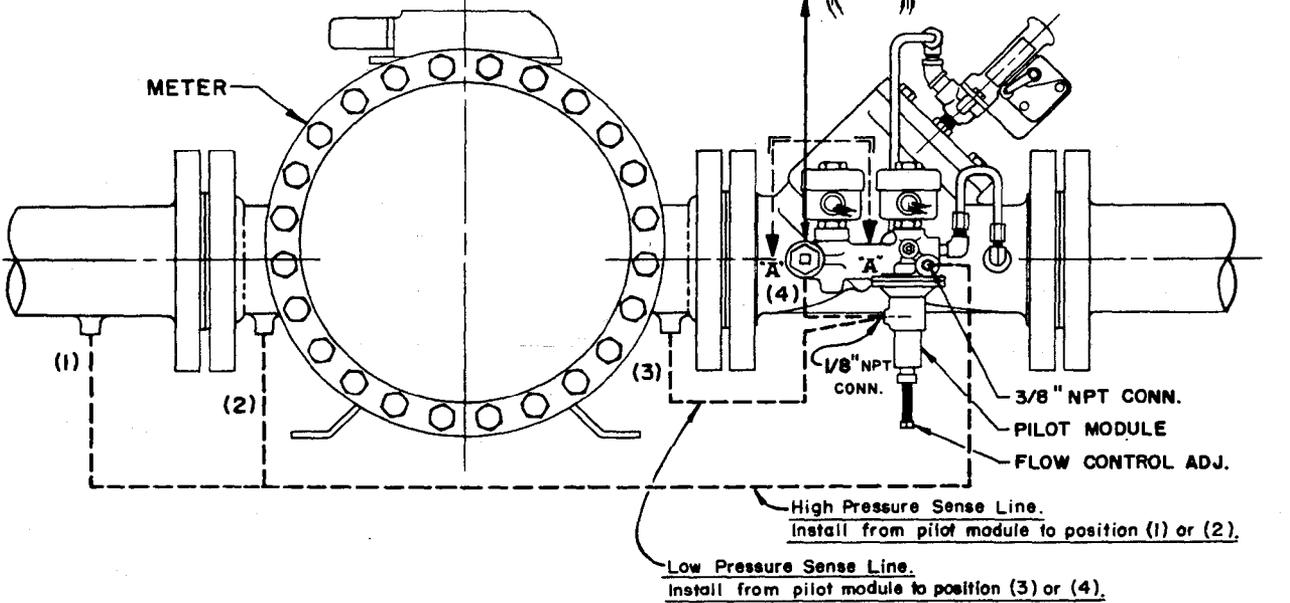

Figure 4-2 Sense Line Connection - Series 787.
6. Two 3/8" sense lines are required, with the 787 model, (Figure 4-2) between the pilot to the inlet and outlet of the meter or orifice plate. This size line is a minimum requirement based on a maximum product viscosity of 500 SSU. A larger size line will be required if the product is in excess of 500 SSU.
5. Check Series 787 to make sure pressure differential sense lines are installed correctly. (Refer to Figure 4-2 and Paragraph 4.4.)